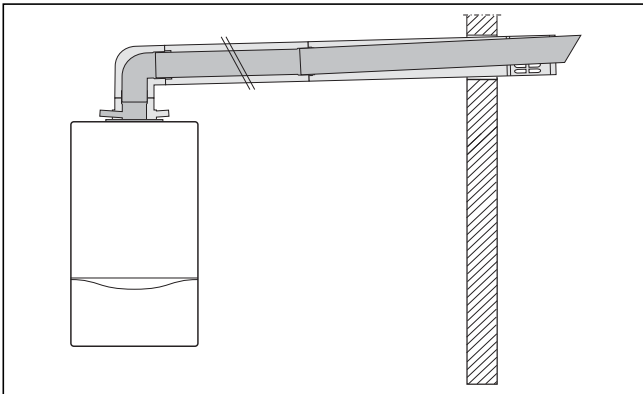

Fig. 4.9 Example of installation with horizontal air/flue duct
- Remove the front casing of the appliance and lower the electronics box (1) forward.
- Unclip the back cover (2) of the electronic box from its fixings (3) and lift it up (see fig. 4.9).
- Pass the connecting cables of each of the components to be connected through the grommets (4) located on the bottom of the appliance to the left.
- Then insert the connecting cables (5) into the electronics box and cut them to length (see fig. 4.9).